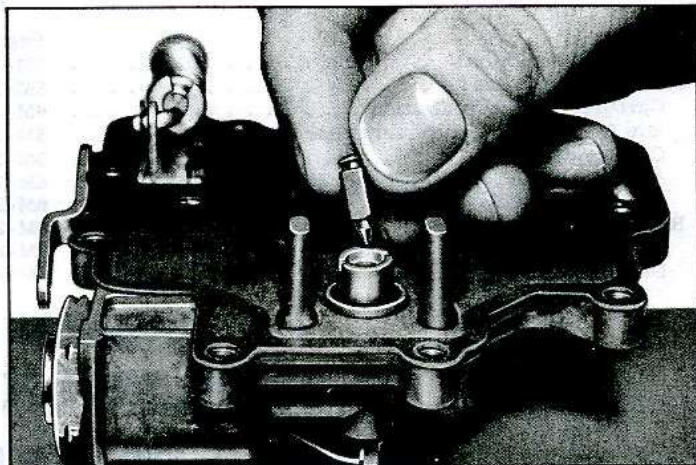

Fig. 4—Removing Float Needle
7. Lift out float needle (fig. 4). Check seat for dirt or corrosion.